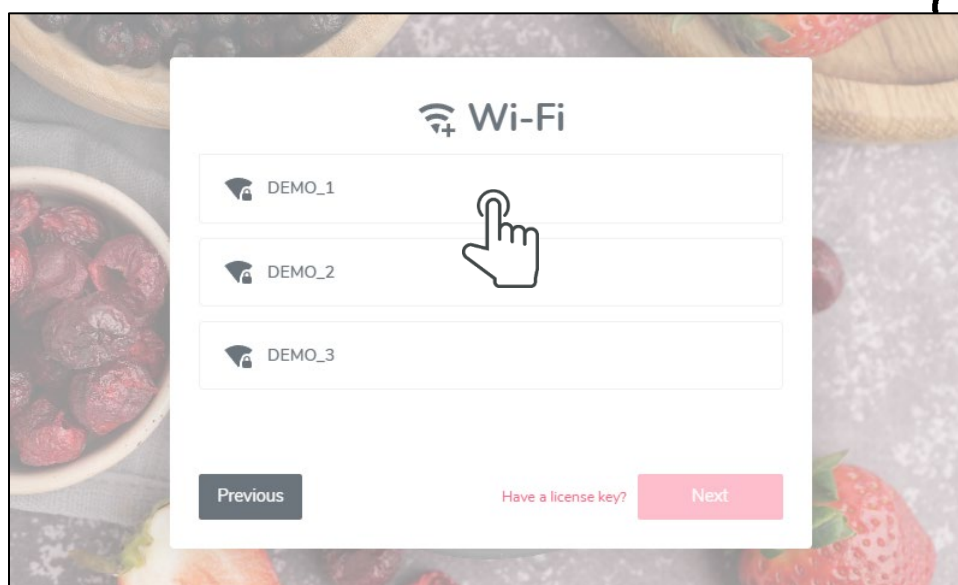

Figure 5
5. On the next step (Figure 5), set up Wi-Fi connectivity. If Wi-Fi connectivity is not desired, contact support. With internet access, the following features are enabled:
1. Select a Wi-Fi network from the list (Figure 5).